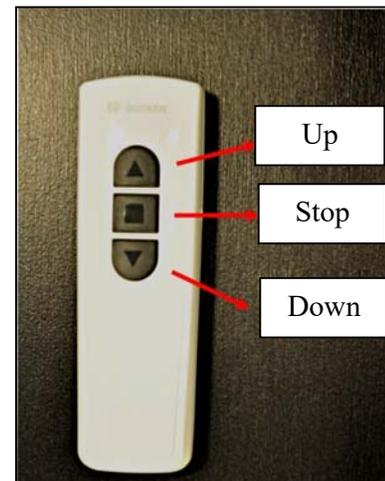

Fig. 7A
- Roll down the PPL 2500 by pushing "DOWN" button on the remote control (Fig. 7A) in order to lower the lift till the lower end-stop, preset in the factory at 2,5 mt. circa. In case you wish to modify the lower end-stop, please refer to instructions on page 5-6.
First, DELETE the LOWER END-STOP as follows. Move the lift down in order to reach the preset lower end-stop by pushing the "DOWN" button on the remote control (Fig. 7A).